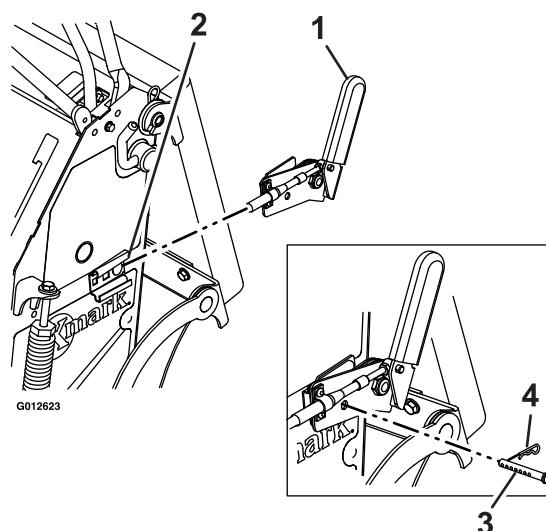

Figure 12
- F. Insert the handle assembly into the mounting bracket as shown in Figure 12.
- G. Insert the clevis pin through the handle assembly hole, into the left hole of the mounting bracket, and through the panel of the unit. Secure the handle assembly with hairpin as shown in Figure 12.